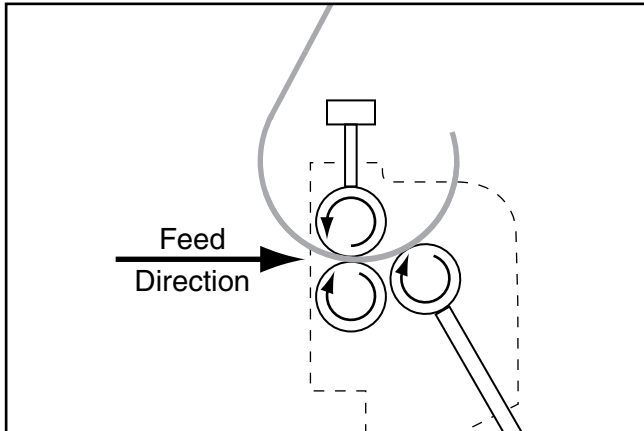

Figure 23. Curving workpiece by feeding opposite end first.
- Rotate workpiece 180°, insert curved end into rollers, then feed it through machine, as illustrated in **Figure 23**.